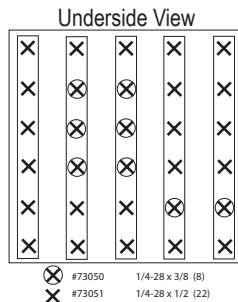

FIG. 4
4. Re-place screws (Figure 4).